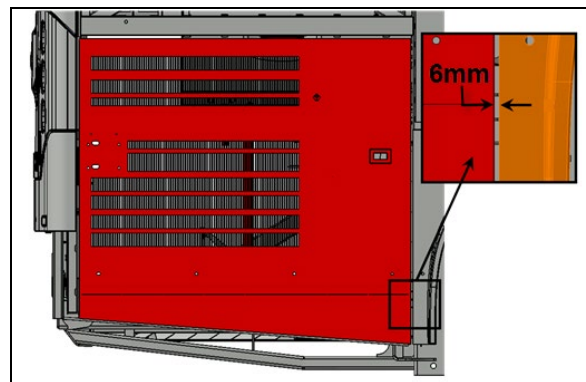

FIGURE 59
- Check the gap between the door and the adjacent panel at the level of the lower attachment point of the arm on the door. The gap should be 1/4" (6 mm) (FIGURE 59).